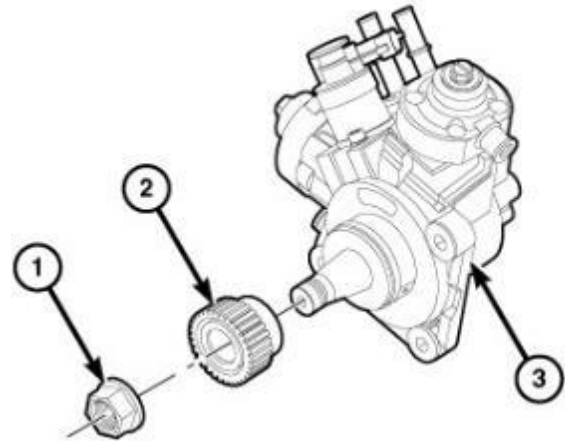

Figure 52 - Drive Gear on the HPFP
**NOTE:** The use of Puller 1023 or a commercially available gear puller is required to remove the fuel injection pump gear (2) (Figure 52).
33. Install the gear (2) and NEW nut (1) onto the NEW high-pressure pump (3) and tighten the nut (1) finger tight (Figure 52).